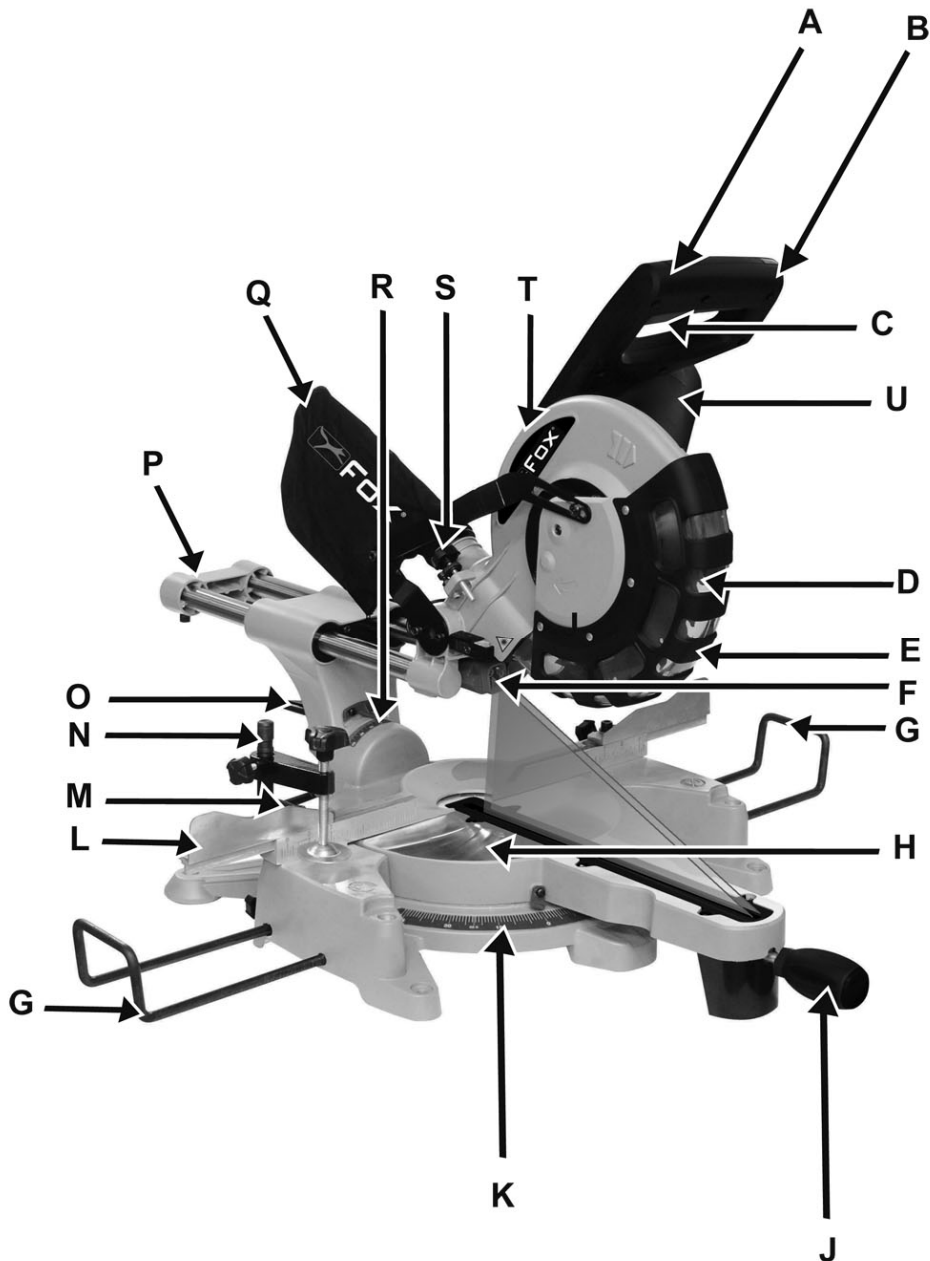

Fig.2
Before using your double bevel mitre saw, you have to assemble the rotating base handle (J) Fig.2.